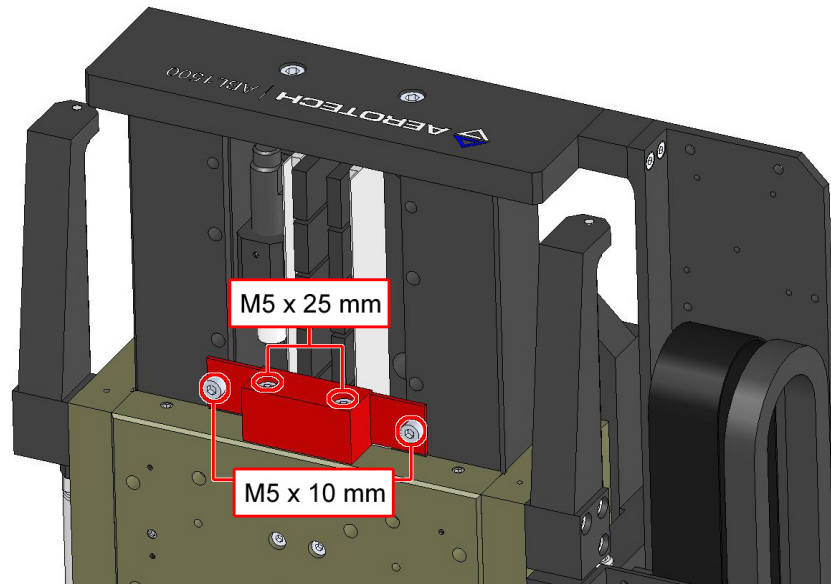

Figure 2-9: Shipping Bracket
3. Loosen, but do not remove, the two M5-0.8x25mm socket head cap screws mounting the shipping bracket to the end of the carriage (Figure 2-9). Loosen the screws by two to three turns (1.6 mm to 2.4 mm).